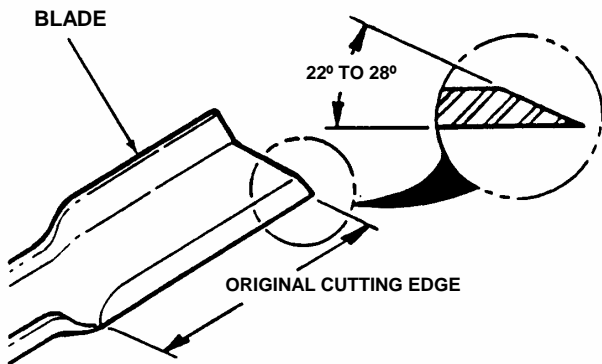

FIGURE 4.6
3. If blade is in good condition, sharpen at 22 to 28 degrees. DO NOT sharpen beyond original cutting edge. See Figure 4.6.